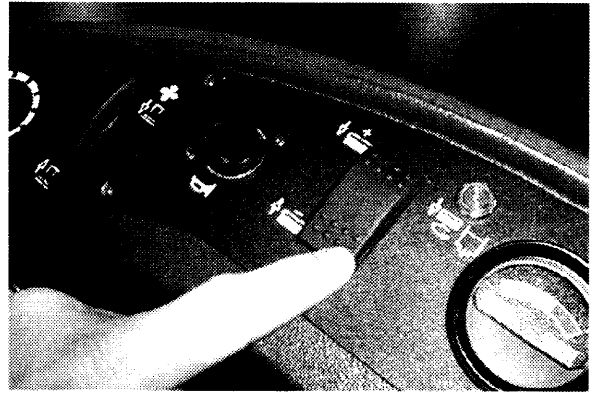

Figure 9
1. Turn key to the on position and press brush switch to raise scrub head (Fig 9).